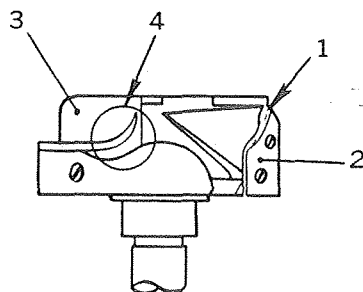

FIG. 42
SPECIALLY DESIGNED ROTATING HOOKS FOR ANGULAR SEAM SEWING (Fig. 42)
The rotating hooks for model 328RB-1 has been developed specifically for these machines and are provided with specific clearances (1) Fig. 42 to allow the most effective transit of the sewing thread. Furthermore, the hook for model 328RB-1 with its larger bobbin provides for much increased thread volume.